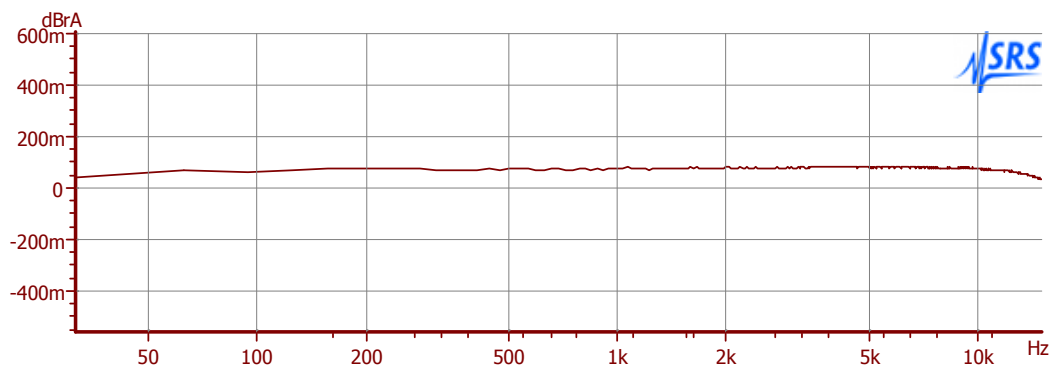

Figure 4-1: Typical Frequency Response, 30Hz to 15 kHz
- G) Verify that frequency response at 50 Hz, 100 Hz, 400 Hz, 5 kHz, and 15 kHz is within  $\pm$ 0.1 dB of the reference level. Figure 4-1 shows a typical result.